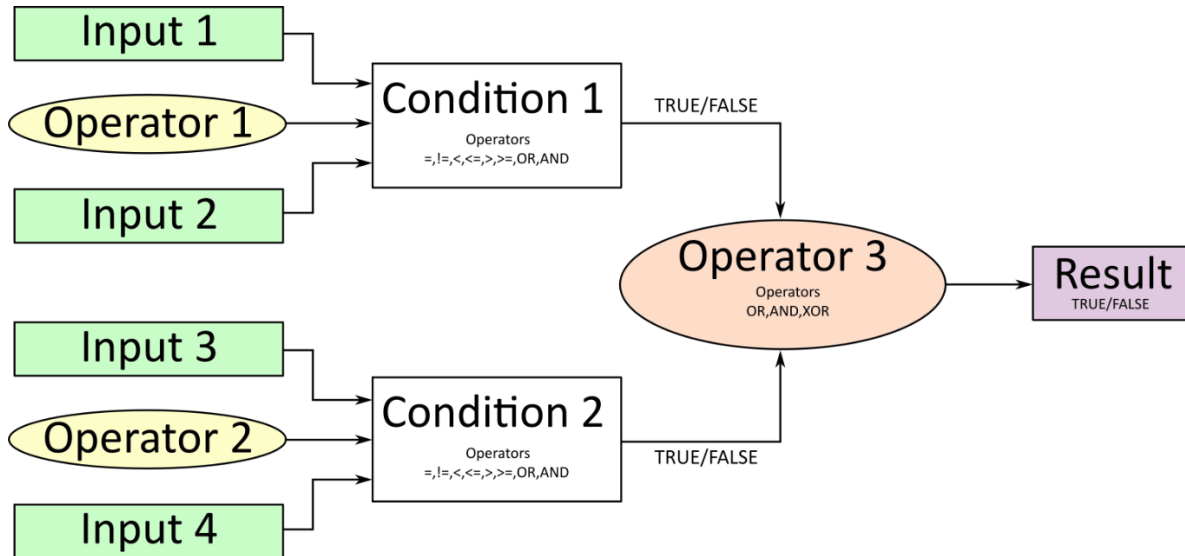

Figure 21 – Conditional Block Diagram
The Conditional Block compares up to four different input sources with different logical or relational operators. The result of each block can therefore only be **true** (1) or **false** (0). Figure 21 demonstrates the connections between all parameters.